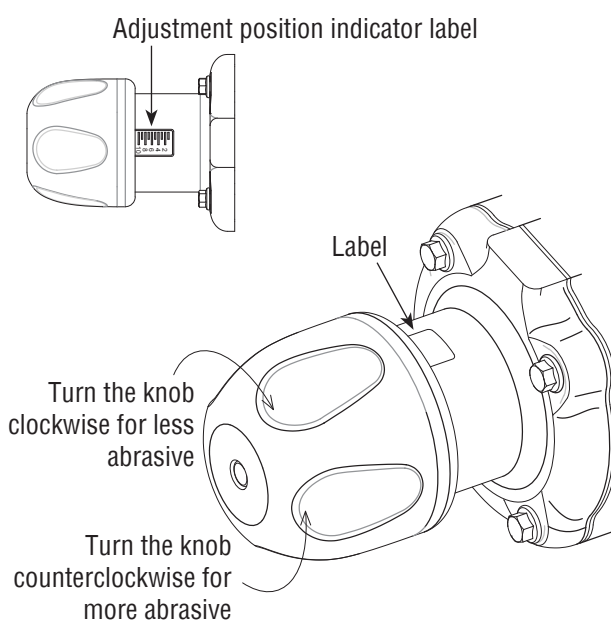

Figure 1
5.1 Media Metering (media flow) – Figure 1
5.1.1 | These instructions and the illustration in **Figure 1** are for a standard cabinet with MQV Metering Valve. Optional metering valves may function differently, but the process is similar. Refer to the metering valve operations manual for the operation of the valve provided.
5.1.2 | The valve is closed when the knob is fully clockwise. Increase abrasive flow by turning the knob counterclockwise and decrease abrasive flow by turning the knob clockwise, as shown in **Figure 1**. Begin with the knob set two turns from fully closed. Increase flow by turning the knob no more than 1/4 turn counterclockwise. Allow 10 to 15 seconds for the flow to stabilize before readjusting. Continue adjusting as described until the correct flow is attained.